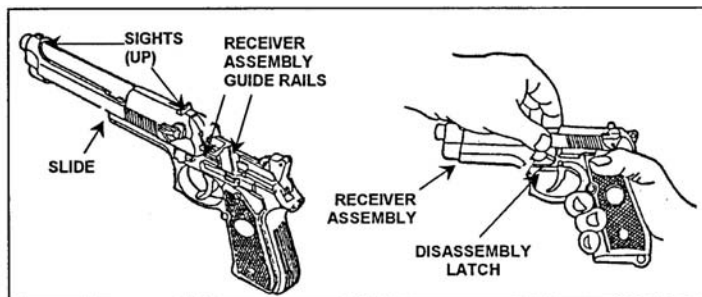

Figure 071-004-0001-8. Final assembly
- g. Push until the rear of the slide is a short distance beyond the rear of the receiver assembly and hold. At the same time, rotate the disassembly latch lever upward. A click indicates a positive lock (figure 071-004-0001-8).
- (1) Insert the follower into the top coil of the magazine spring. Make sure the notches on the follower and magazine tube are on the same side.
- (2) Insert the magazine spring with the follower into the magazine tube.
- (3) Turn the magazine bottom up, with its backside against the palm of the hand. Attach and center the floor plate retainer on the bottom spring coil.